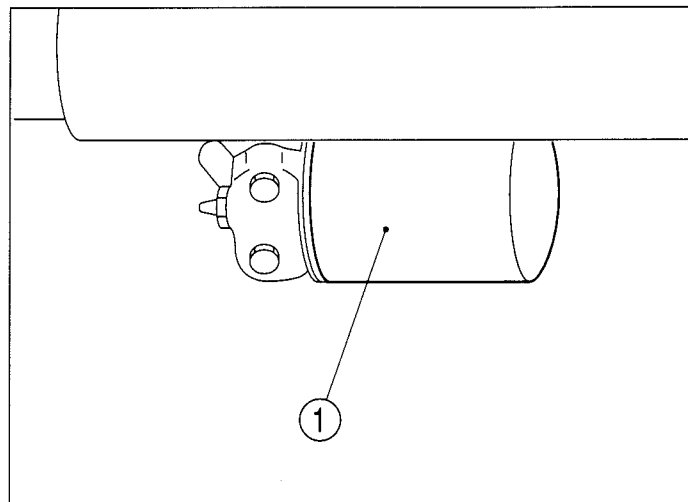

FIG. 79
FIG. 79: Always replace the hydraulic oil filter while oil is removed. Carefully unscrew the oil filter (1) from its adapter. Use of a filter wrench may be necessary.